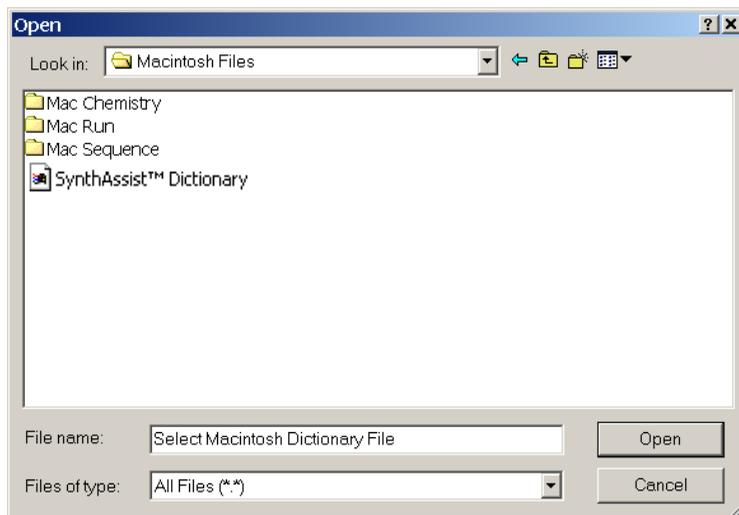

Figure 3-4 Open Dialog Box
2. Click **Browse** to locate the “SynthAssist™ Dictionary” installed in the Macintosh Files folder (Figure 3-4).